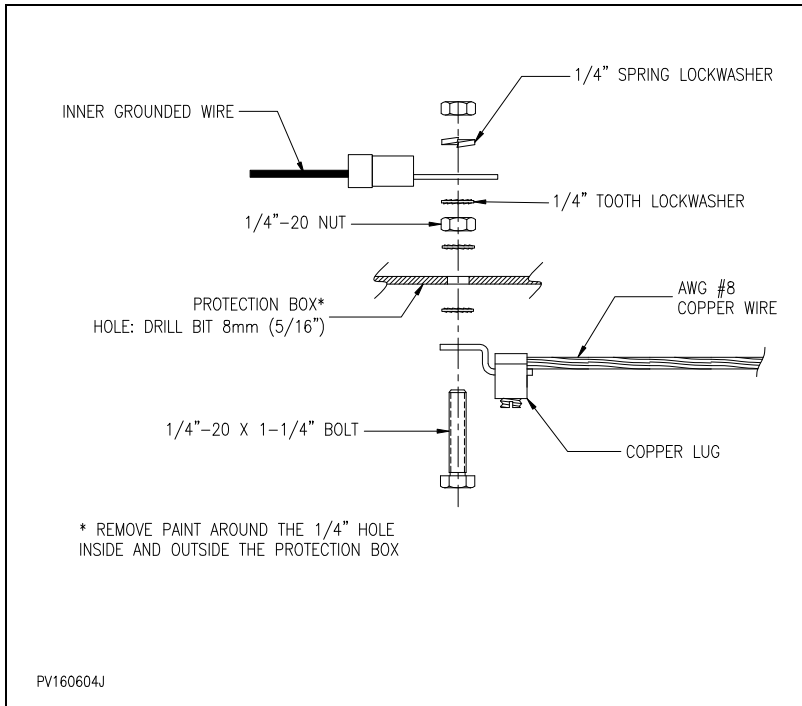

Figure 22 : Fastening the grounding wires to the protection box
3. Cut the copper wire and fasten it to the outside of the protection box as shown in Figure 22 : "Fastening the grounding wires to the protection box".